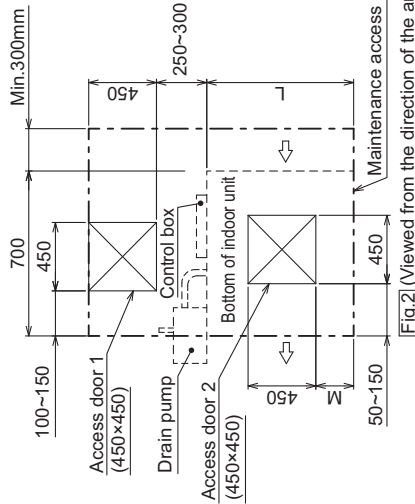

Fig.2 (Viewed from the direction of the arrow A)
- Create access door 1 and 2 (450x450mm each) as shown in Fig.2.
- (2) When a space of less than 300mm is available below the unit between the unit and the ceiling.